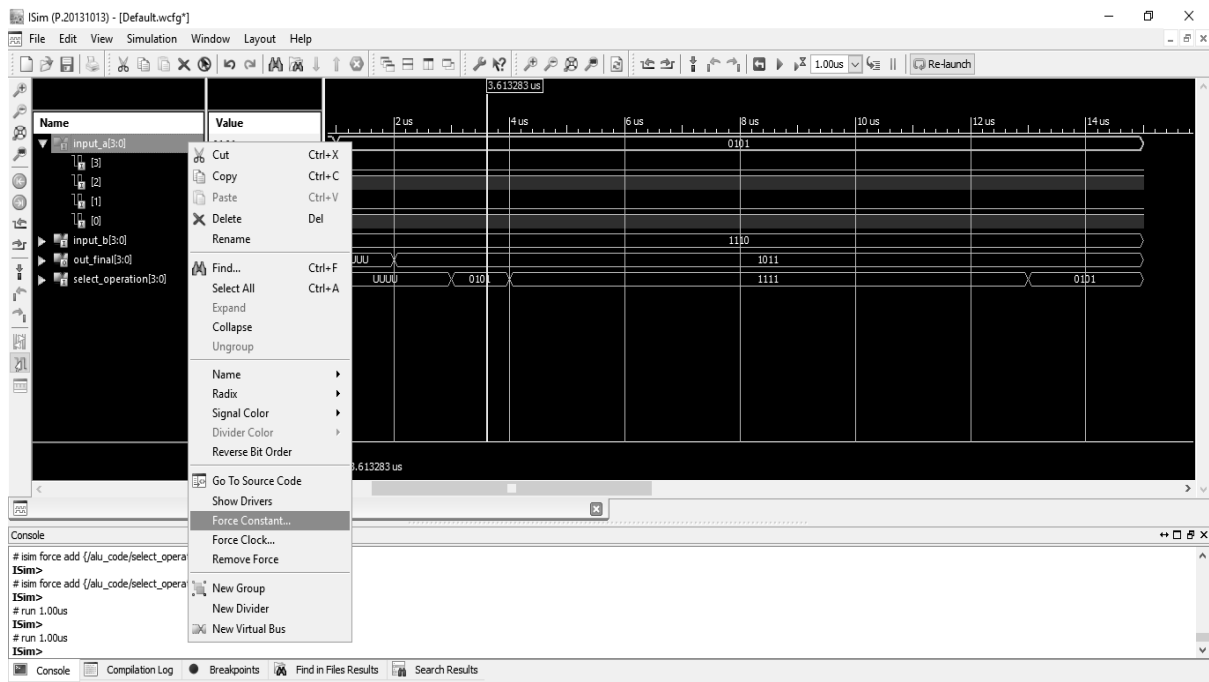

Fig. 16.5: Forceful Simulation
6. Go to implementation to simulation tab , right click on main source file and create Test Bench file for simulation or directly simulate and apply entity value forcefully as shown in fig. 16.5.